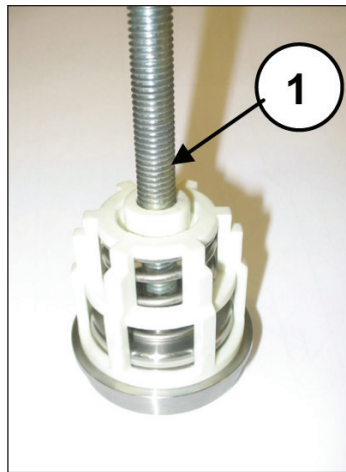

Fig. 37
- Disassemble the suction and outlet valve units, screwing a sufficiently long M10 screw in such a way as to be able to reach the valve plate and extract the valve guide from the valve seat (Fig. 37 pos. ①).